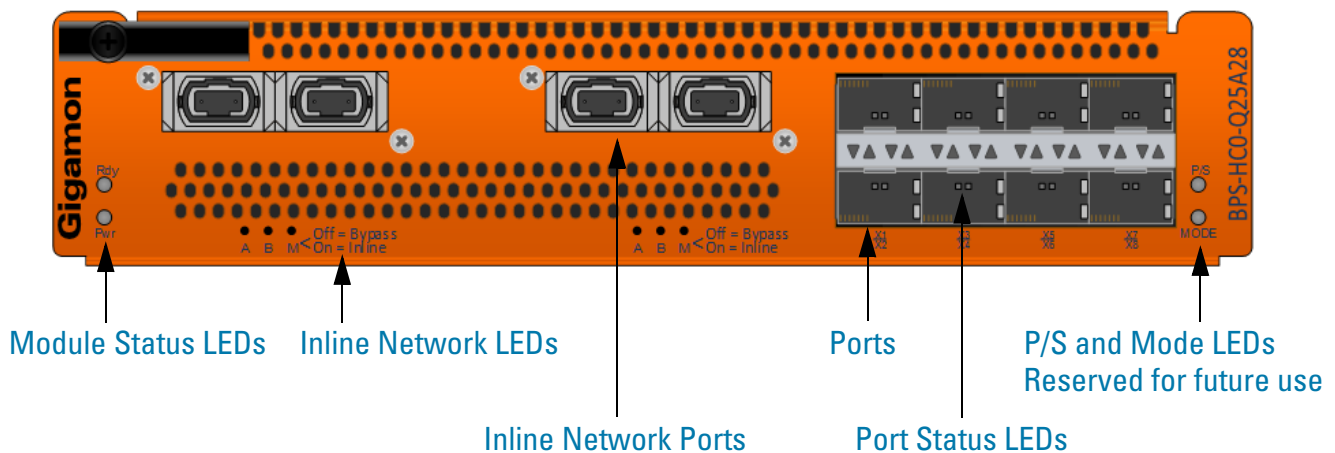

Figure 1-16: Bypass Combo Module BPS-HC0-Q25A28
- Bypass Combo Module with two SR4 (50/125µm multimode) inline network port pairs and eight regular SFP+ port cages (BPS-HC0-Q25A28). Refer to Figure 1-16 on page 31.